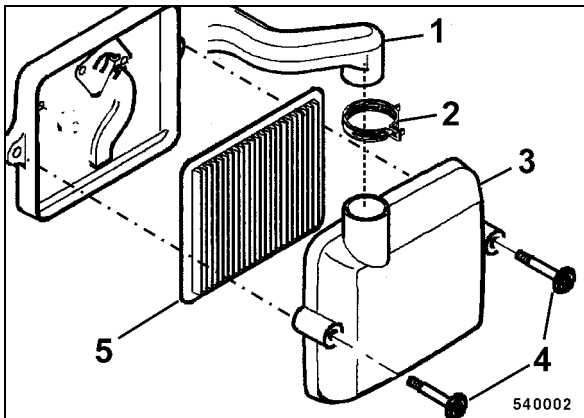

Fig. 67
- Loosen hose clamp (2) (Fig. 67) and pull the air supply hose (1) off the air filter housing.
- Unscrew two fastening screws (4) and remove cover (3) from the air filter housing.
- Pull the air filter (5) out of the housing.
- Assemble the air filter (5) (Fig. 67) and tighten the cover (3).
- Connect the air guide hose (1) to the air filter housing and tighten the hose clamp (2).